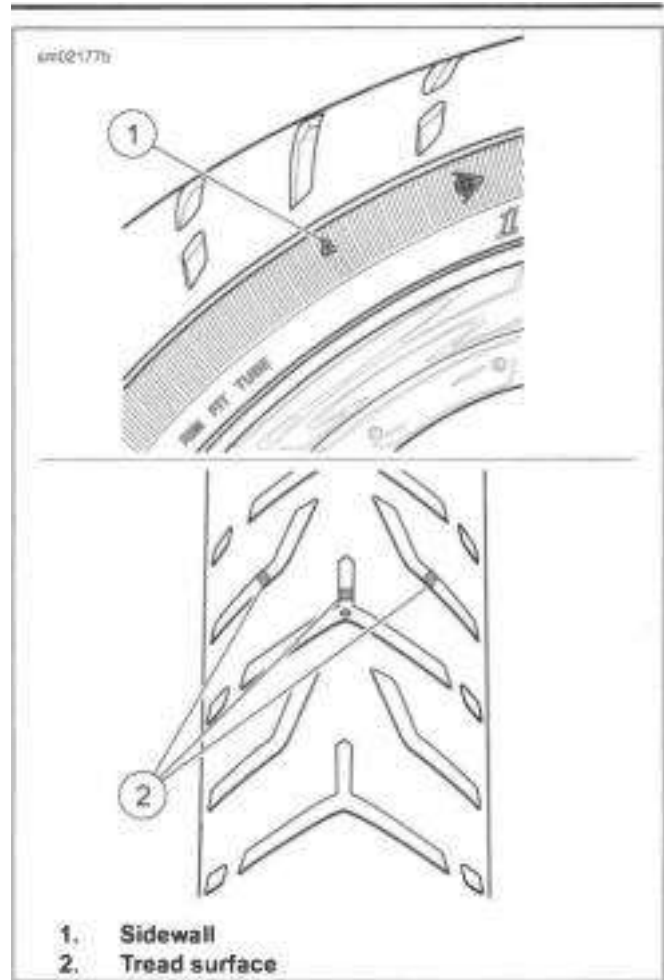

Figure 3-24. Tread Wear Indicators (Typical)
- **See Figure 3-24. The tread wear indicators appear when % in (0.8 mm) or less tread remains. Always replace tires before tread is worn to the indicators.**